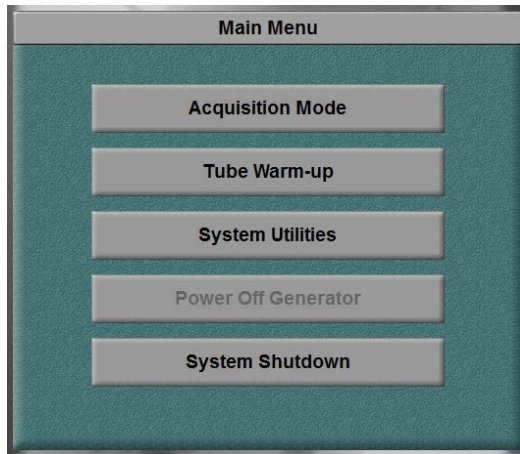
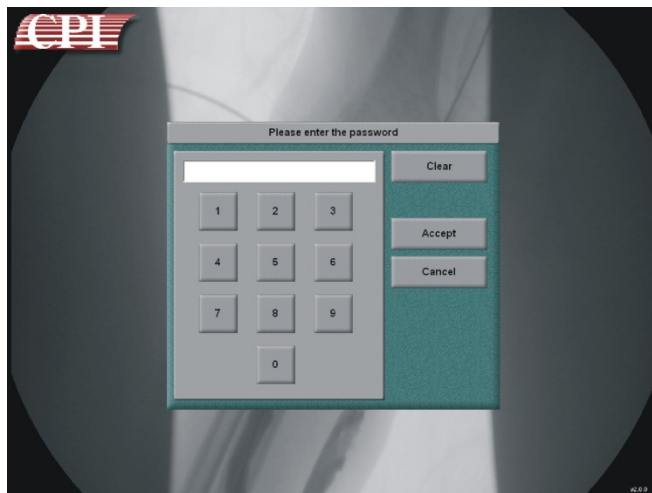

Figure 3-26: Main Menu
Figure 3-27: Password Window
1. From the main console menu (Figure 3-26), press **System Utilities**. A pop-up window will be displayed (Figure 3-27), requesting a password.